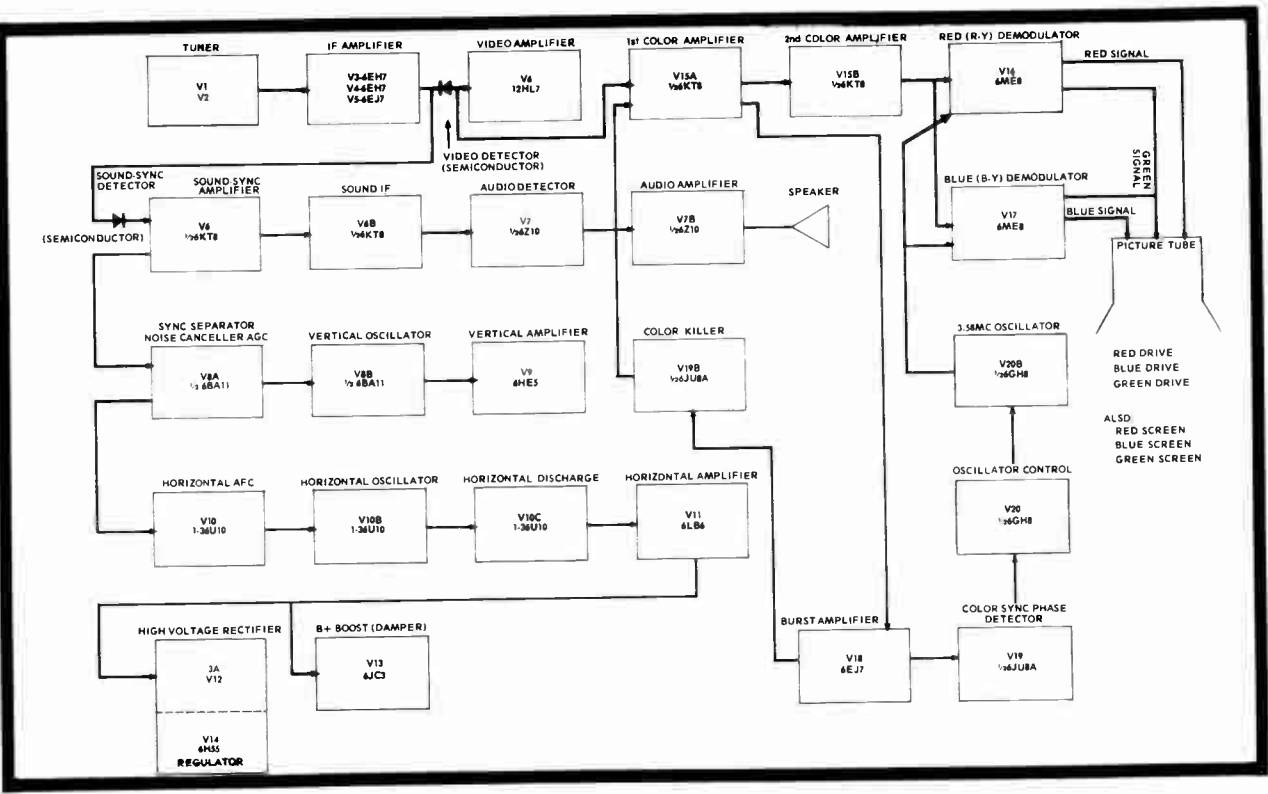
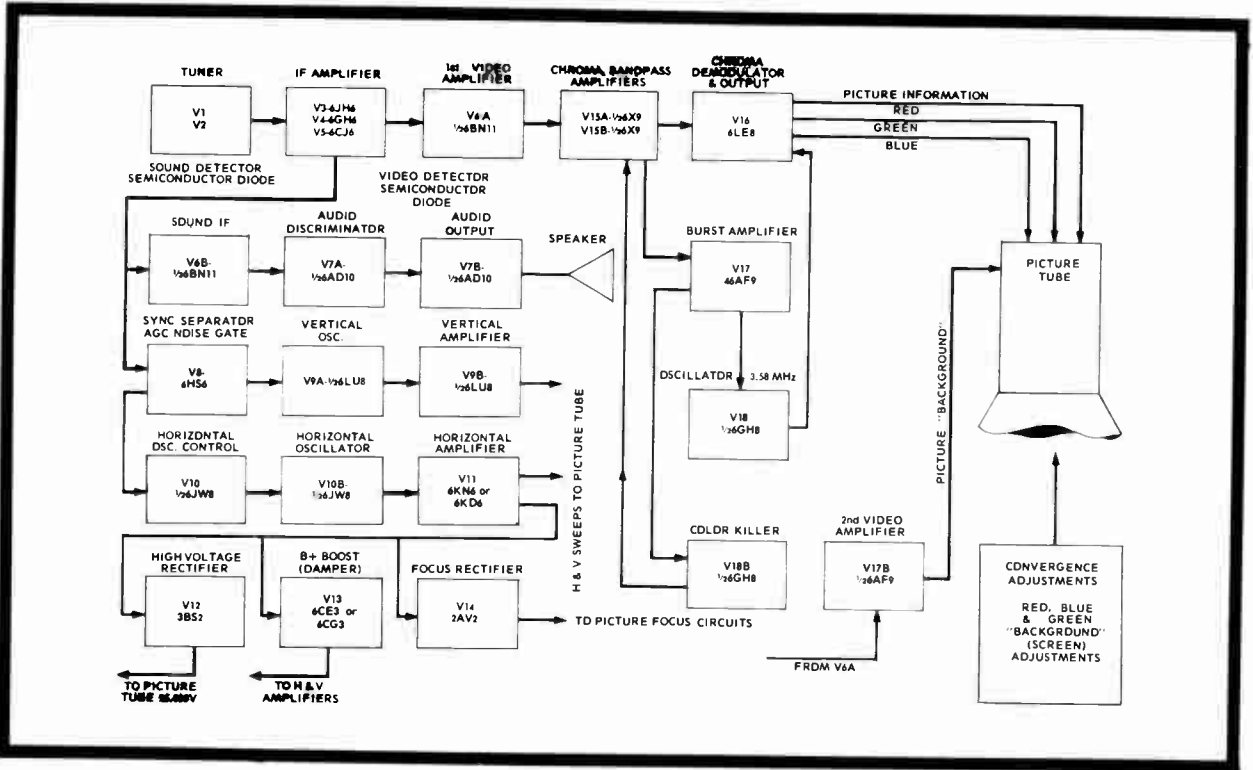

Fig. 9-3. In the color set represented by this block diagram, the color demodulators drive the picture tube directly.
Fig. 9-4. In this block diagram one multifunction tube demodulates the color signals and drives the picture tube.
The color control is called different names in various receivers. In Fig. 9-1 it is called simply "color." In Fig. 9-2 it is called "chroma gain," while in Figs. 9-3 and 9-4 it is called "color control" and "color level," respectively. In each case, this adjustment should be turned to the extreme no-color end of rotation before starting any of the troubleshooting procedures outlined previously.
If after advancing the chroma control there is still no color on the screen, the failure probably lies beyond this point (between the control and picture tube). Furthermore, since none of the colors are present the defect must be in a circuit common to all colors, including the bandpass amplifiers (V15A in Figs. 9-1 and 9-2, V15A-V15B in Figs. 9-3 and 9-4), the 3.58-MHz oscillator (V15B in Fig. 9-1, V17B in Fig. 9-2, V20B in Fig. 9-3 and V18A in Fig. 9-4), the chroma demodulators and/or the final amplifiers. To find out which stage is defective:
called "amplifiers." Further observation will disclose that the demodulators are identified as the "X-demodulator" and the "Z demodulator" (there is no "Y"), as in Fig. 9-2, and consist of two tubes or two sections of a twin tube. In the latter application they are marked to indicate that they are  $\frac{1}{2}$  of a 2-in-1 tube (for example, V18A,  $\frac{1}{2}$  of a 6DT8 etc.). In other cases, as in Fig. 9-4, they are part of a 3-in-1 tube, such as a 6LE8. In one case (Fig. 9-1), no tubes are used; instead six semiconductor diodes (D1, D2, D3, D4, D5, D6) are employed. In Fig. 9-3 the terms "(R-Y)" and "(B-Y)" are used instead of "X" and "Z." In the next group of function boxes, in practically all cases, they are marked: R-Y amplifier, B-Y amplifier, and G-Y amplifier.
In some cases (Figs. 9-3 and 9-4) there are no such amplifiers at all. In one example (Fig. 9-4) one multipurpose tube (V16, 6LE8) performs all the functions of the demodulators and final color amplifiers. In the second group of functions, those of final color amplifiers, there are also a number of different arrangements.
This could be either a total "tearing up" of the color picture, similar to the diagonal zig-zag tearing of a black-and-white picture when the horizontal frequency adjustments are off (see Fig. 2-5), or in less severe cases a partial breakup with the color wavering and general picture instability, often only intermittently. As a general rule, this type of behavior suggests improper operation of one of the color sync stages. This includes, depending on the particular TV set, the burst amplifier (V15B in Fig. 9-2, V18 in Fig. 9-3 etc.), the burst gate (V7C in Fig. 9-1), and finally the 3.58-MHz oscillator (Fig. 9-1, V15; Fig. 9-2, V17A; etc.) and the 3.58-MHz crystal itself. In some TV sets the sync and oscillator functions may be called color sync, burst gate, subcarrier amplifier, and chroma oscillator control. In all cases the functions are the same even if the names differ. These functions are engaged in timing the color sequences and positioning precisely in step with the
**Replace the first color sync tube:** Since the number of sync-related functions (and tubes used in each case) differ widely, it is necessary to determine the sync "lineup" in each particular set. Thus, using our typical block diagrams as examples, in Fig. 9-1 the sync stages consist of burst gate V7C, and subcarrier amplifier V15B, in the order given. The corresponding sequence in Fig. 9-3 is gated burst amplifier V18, phase detector V19A, reactance control V20A, and 3.58-MHz oscillator V20B. In Fig. 9-2 the sync lineup is burst amplifier V15B and reactance control V17A. In Fig. 9-4 burst amplifier V17A and 3.58-MHz oscillator V18A. These typical diagrams are based on actual TV sets and cover the vast majority of all color sets in use today. Should one exceptional case have a somewhat different arrangement or designation, you can identify each function by comparing the names and functions with those given here. The word "chroma" may be used for the word "color," "control" is often used for "sync," "burst" may be used interchangeably with "oscillator" ("osc"), or "reference" or "subcarrier."
**Replace the first tube in the sync lineup.** Very often this will be one section of a multifunction tube, but this does not change the procedure. If only a minor improvement in stabilization results, you have not found the trouble. In Fig. 9-1 the first tube is the burst gate, V7C,  $\frac{1}{3}$  of a 6M11 tube. In Fig. 9-2 it is the burst amplifier, V15B,  $\frac{1}{2}$  of a 6BN11. In Fig. 9-3 it is V18, 6EJ7, the burst amplifier. In Fig. 9-4, the burst amplifier is V17A,  $\frac{1}{2}$  of a 6A19.
**Remove the second sync tube.** In Fig. 9-1 this is the subcarrier amplifier, V15B,  $\frac{1}{2}$  of a 6BW11. In Fig. 9-2 it is V17A,  $\frac{1}{2}$  of a 6GH8A, the reactance control. In Fig. 9-3 the second tube is V19A, the sync phase detector, and in Fig. 9-4, it is the 3.58-MHz oscillator, V18A. If no better than a slight improvement is apparent, the fault lies elsewhere and the procedure continues as follows:
Where the second step involved the 3.58-MHz oscillator, as in Fig. 9-4 replace the 3.58 crystal if it is a plug-in type. It is also advisable in this case to observe whether the color breakup is always present from the moment the TV set is switched on or if it appears later after the set warms up. If the latter is true, the crystal is a most likely suspect, as these units sometimes stop functioning (oscillating) after a period of normal operation but may return to normal if the set is switched off, then immediately switched on again.
In TV sets similar to Figs. 9-1 and 9-3, replace the next likely offending tube. This is the oscillator control, V20A,  $\frac{1}{2}$  of a 6GH8A, in Fig. 9-3. Finally, in all types of TV set lineups the last stage is again the 3.58-MHz oscillator or the reference oscillator. If none of those steps seem to make an adequate improvement in color stability or normal picture, the fault probably lies in one of a number of components in this general area, requiring troubleshooting by a professional using specialized instruments.